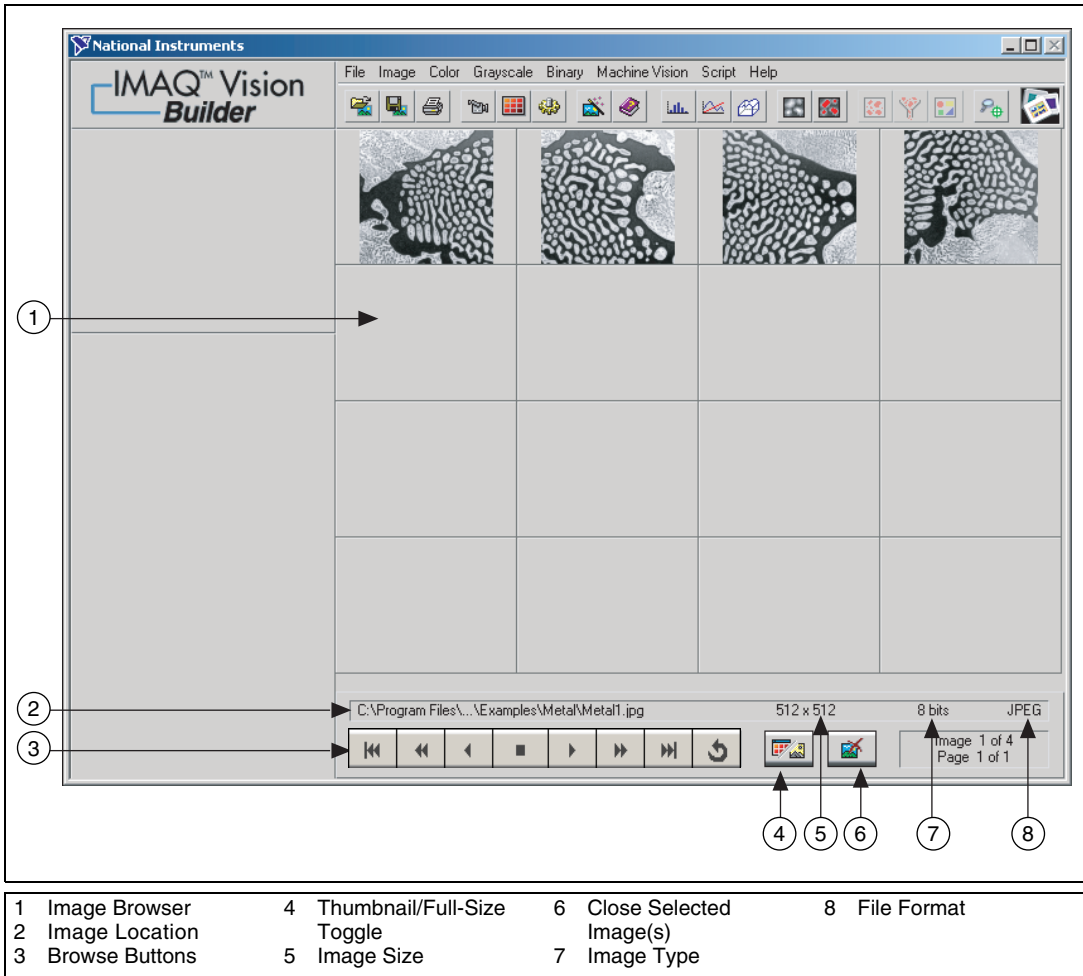

Figure 2-1. Image Browser
- **Image Browser**—Contains all of the images currently loaded in IMAQ Vision Builder. Through the Image Browser, you can select an image to process by double-clicking on it. See Figure 2-1, Image Browser, to view images loaded into the Image Browser.
IMAQ Vision Builder loads those image files into the Image Browser, as shown in Figure 2-1. The Image Browser provides information about the selected image, such as image size, location, and type.
You can view new images in either thumbnail view, as shown in Figure 2-1, or in full-size view, which shows a single full-size view of the selected image.